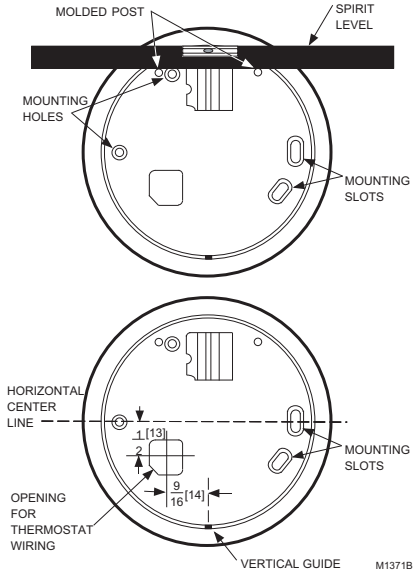

Fig. 4. Leveling wallplate or subbase before mounting T87F.
- Level the thermostat wallplate or subbase exactly using a spirit level as shown in Fig. 4.